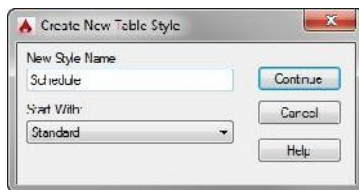

FIGURE 9.59: Naming the new table style
5. In the New Style Name text box, enter **Schedule**, as shown in Figure 9.59, to create a new table style name, and then click Continue.